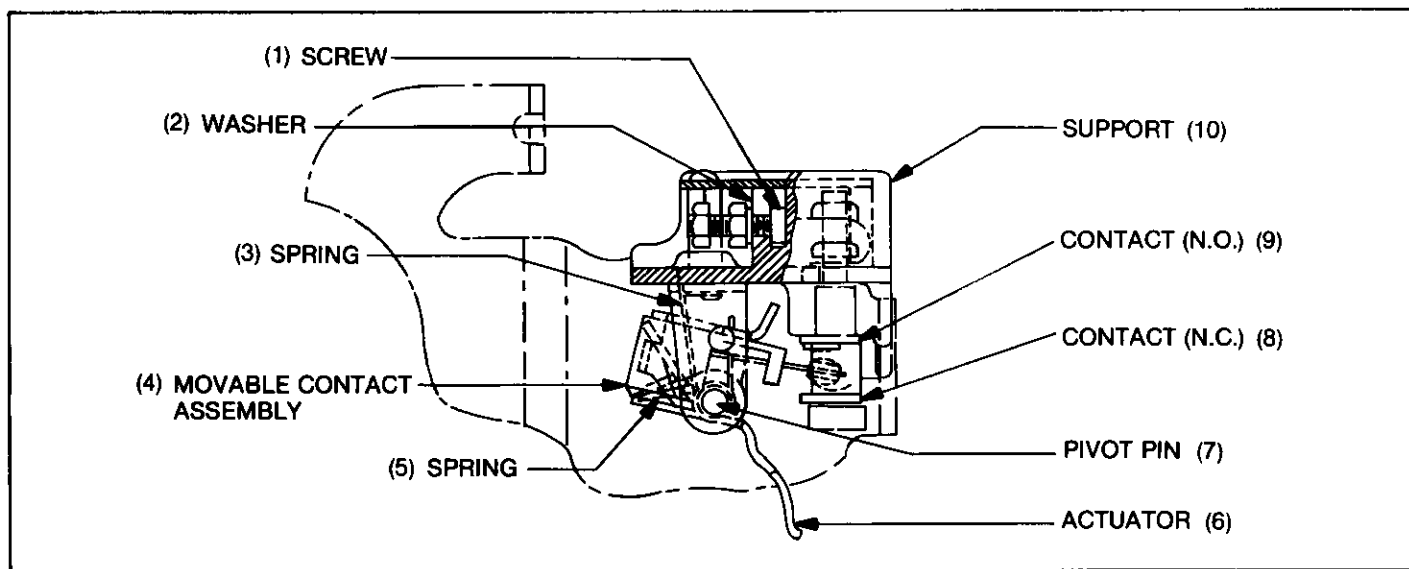

Fig. 9. Cut-off switch
Cutoff Switch (Fig. 9)
The switch is operated by the movement of a mechanism link against the switch actuator (6), Fig. 9. This causes the